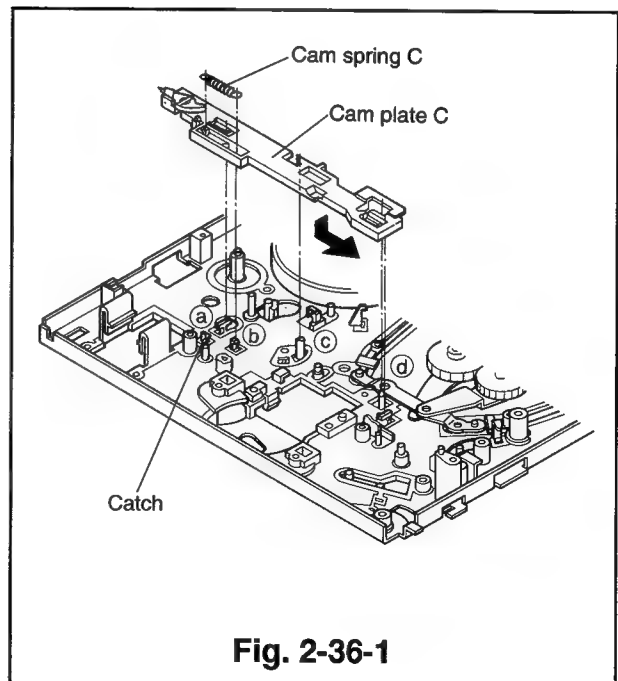

Fig. 2-36-1
- ① Remove the reel belt and the belt pulley. (Refer to Para. 2-28 for the removal method.)
- ② Remove the reel idler assembly. (Refer to Para. 2-35 for the removal method.)
- ③ Remove the loading motor assembly(which holds the motor holder). (Refer to Para. 2-29 for the removal method.)
- ④ Remove the main gear-J. (Refer to Para. 2-30 for the removal method.)
- ⑤ Remove the plate-J, the roller-B, and the cam plate-B. (Refer to Para. 2-33 for the removal method.)
- ⑥ Remove the cam spring-C. (Refer to Fig. 2-36-1.)
- ⑦ Slide the cam plate-C to the left end.
- ⑧ Unfasten the catch and raise the cam plate-C to remove it. (refer to Fig. 2-36-1.)
- ② Position the cam plate-C so that the four points(㉑, ㉒, ㉓ and ㉔) shown in Fig. 2-36-1 enter into the matching holes and slide it to the right end.
- ③ Install the cam spring-C.
- ④ Install the cam plate-B, the roller-B, and the plate-J. (Refer to Para. 2-33 for the installation method.)
- ⑤ Install the main gear-J. (Refer to Para. 2-30 for the installation method.)
- ⑥ Install the loading motor assembly(which holds the motor holder). (Refer to Para. 2-35 for the installation method.)
- ⑦ Install the reel idler assembly. (Refer to Para. 2-35 for the installation method.)
- ⑧ Install the belt pulley and the reel belt. (Refer to Para. 2-28 for the installation method.)